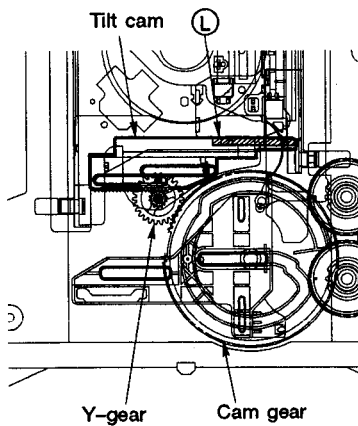

Fig. 2-8
④ Tilting the Servo-Mechanism Unit
The Y-gear on the motor base, from ascending of the servo-mechanism unit to clamping, and cam gear are engaged to drive the tilt cam (Fig. 2-8). Since support points from the tilt base are provided on the slanted side ① (Fig. 2-8) of the tilt cam, tilting is performed by the left/right movements of the tilt cam.